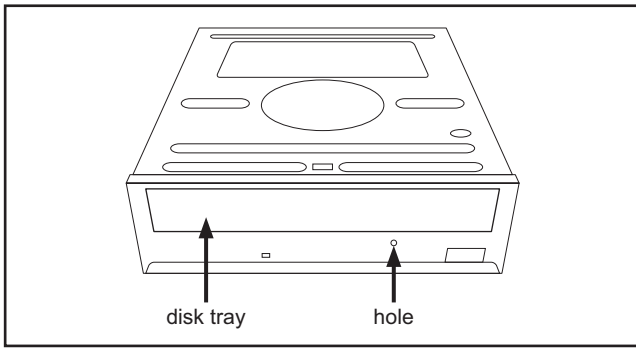

Fig.5-2a
- (1) Unplug the ACpower cord from the AC outlet.
- (2) Remove the top cover and front panel assembly. (Refer to the disassembly procedure and perform the disassembly of the major parts before removing)
- (3) Pass a thin wire through a hole in the DVD unit.
- (4) The disc tray comes out slightly. Take out the disc tray manually.(See Fig.5-2a)